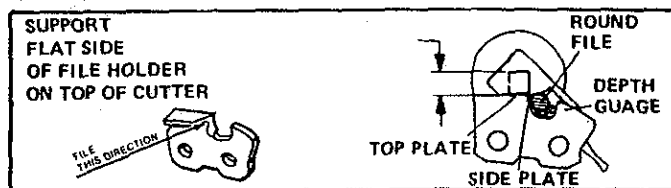

Figure 32
- a.) Position flat side of file holder (with 7/32" round file) on cutter top plate and depth gauge. Figure 32.